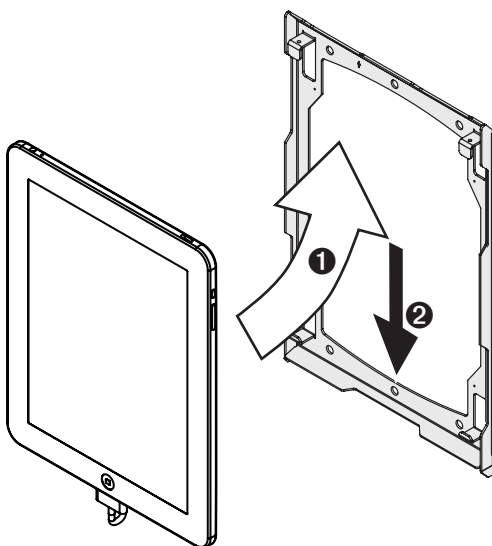

Figure 3
- 1 Place the iPad™ on the back plate by easing it against the top brackets, then the bottom brackets (Figure 3).